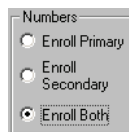

Figure 14-6: Enroll Cards - Numbers Field
- In the “Numbers” field, click on the Enroll Both radio button (see Figure 14-6).